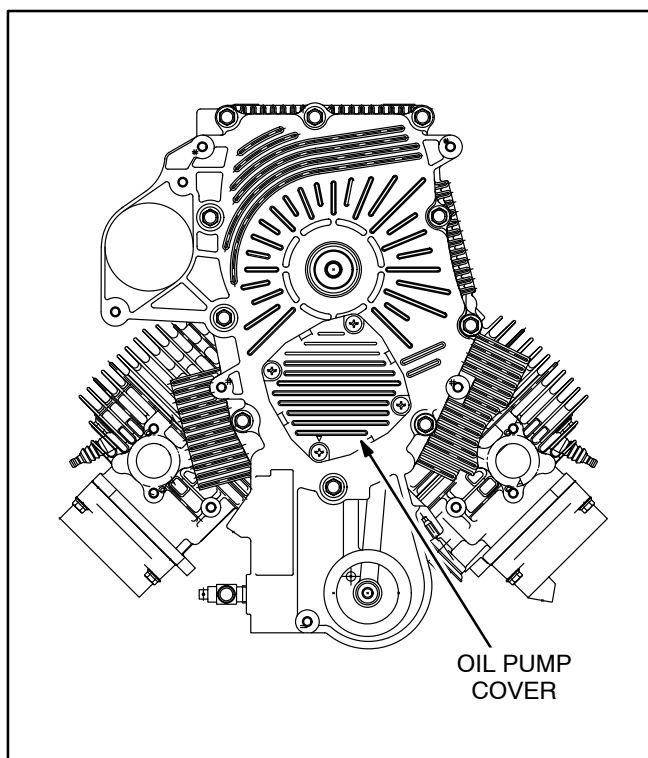

FIGURE 9-14. OIL PUMP COVER (ENGINE BOTTOM)
**Removing Oil Pump:** To remove the oil pump for service (Figure 9-14), it will be necessary to remove the flywheel but not to remove the engine from the base. See Section 7. *Fan, Drive Belt, Flywheel, Ignition, Exhaust* to remove the flywheel. Then remove the four mounting screws and remove the pump components (Figure 9-15).